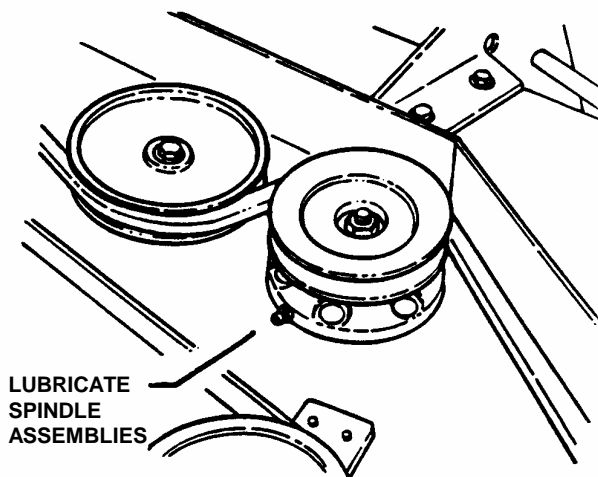

FIGURE 3.4
- Remove foot rest to gain access to lubrication fitting located on the top of deck below deck pulleys. Lubricate with Kendall NLGI No. 2 lithium grease or equivalent, from a grease gun until grease purges from vent located on spindle housing underneath deck.. See Figure 3.4.